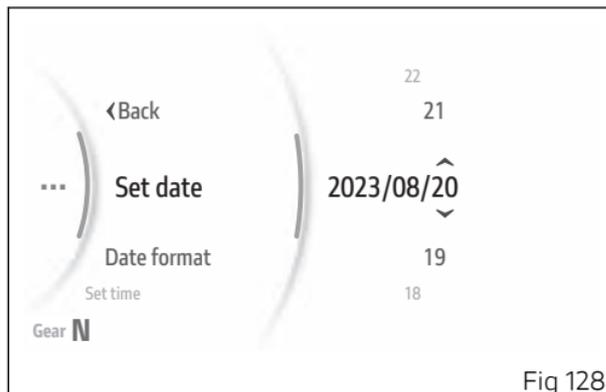

Fig 128
The arrows and available values appear for the third parameter, which is the day in the example shown here (Fig 128). Use buttons (1) and (2) to scroll and select the desired value. Press ENTER (3) to confirm.